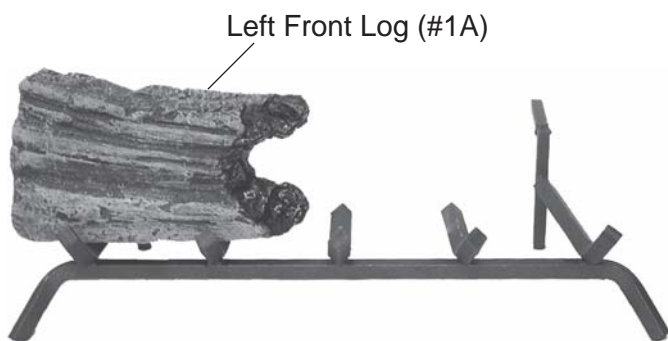

Figure 102 - Placing Left Front Log #1A on grate
2. Place Left Front Log #1A on front left of grate. See Figure 102.